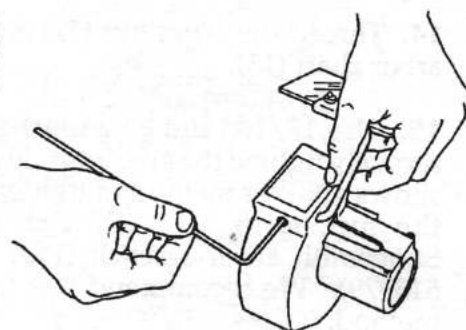

Fig. 8
8. While holding the shield in place at its uppermost position, use a 5/32" Allen wrench to tighten the setscrew (2). See Fig. 8.